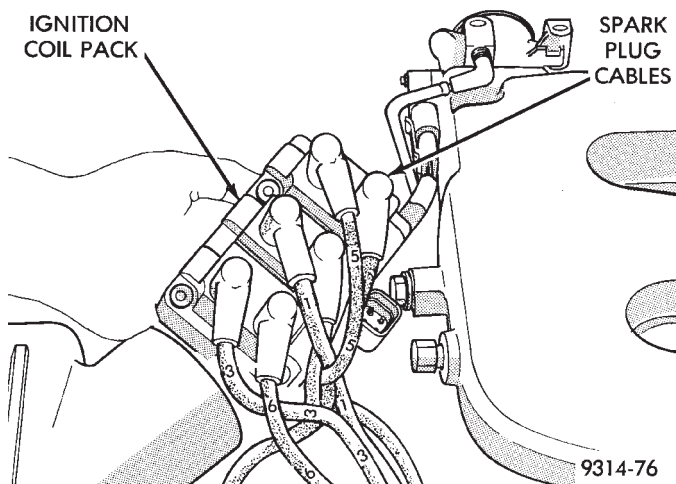

Fig. 34 Spark Plug Cable Identification
- (1) Remove air cleaner hose.
- (2) Disconnect electrical connector from coil pack.
- (3) Remove coil pack mounting screws.
- (4) Remove coil. The spark plug cables are numbered for cylinder identification (Fig. 34).